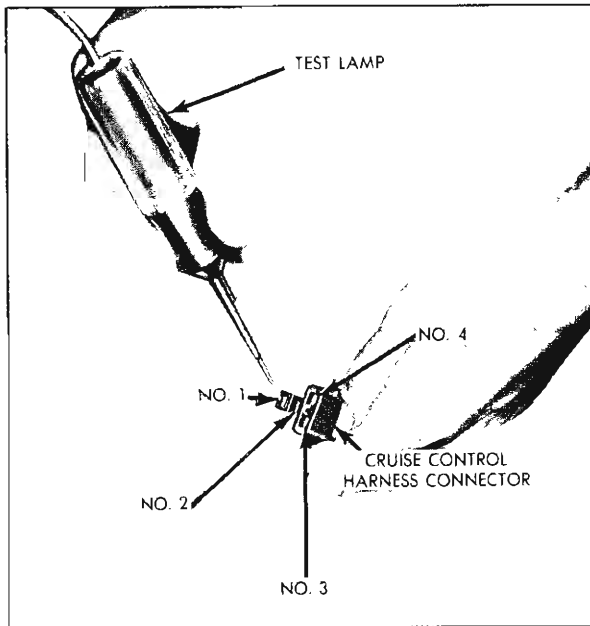

Fig. 72—Electrical Connections
4. Using a test lamp, ground one test lamp lead and touch other lead to terminal #1, Figure 72. Test lamp should light. If lamp fails to light, check for blown fuse, defective car wiring, or defective wiring in selector control assembly.
3. Using a test lamp, ground one test lamp lead and touch other lead to terminal #4, Figure 72.